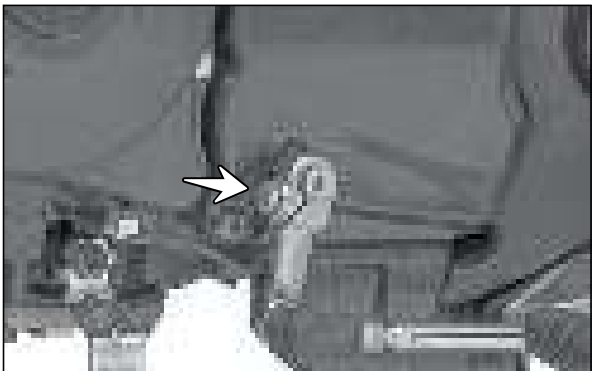

Fig. 3.105
- Remove hexagonal screw (M6x20 - 1 No.) from the arm gear shifter lever mounting. (Fig. 3.105)